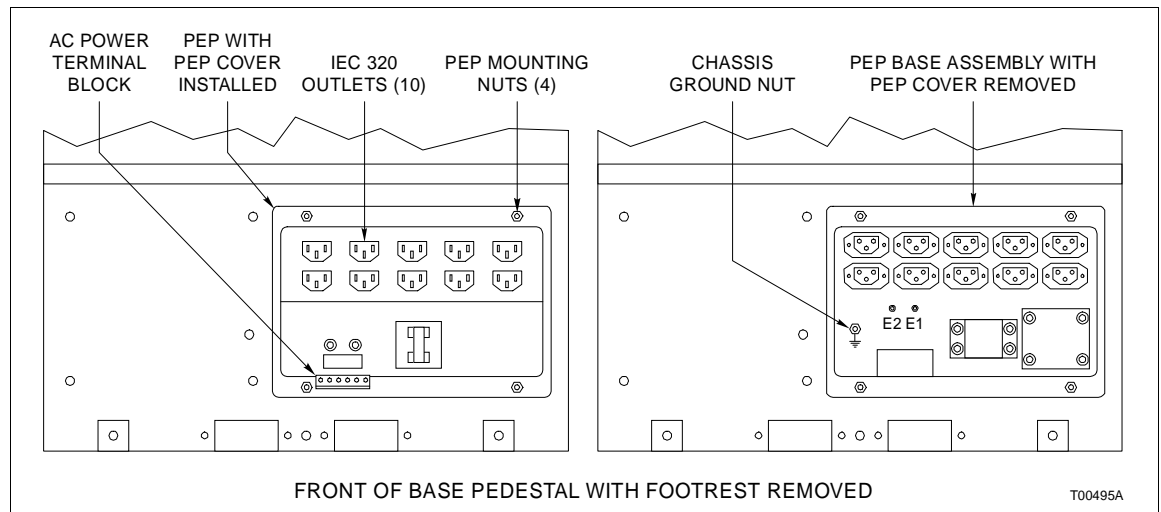

Figure PR10-1. PEP Removal
- 2. Remove the AC power terminal block (Fig. PR10-1). There is no need to remove the wires from the terminal block.